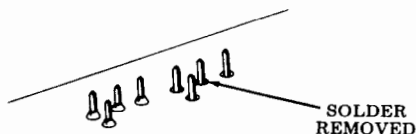

Fig. 9—Solder Removal
- (c) Remove solder from around terminal pins of keyswitch to be removed (Fig. 9).